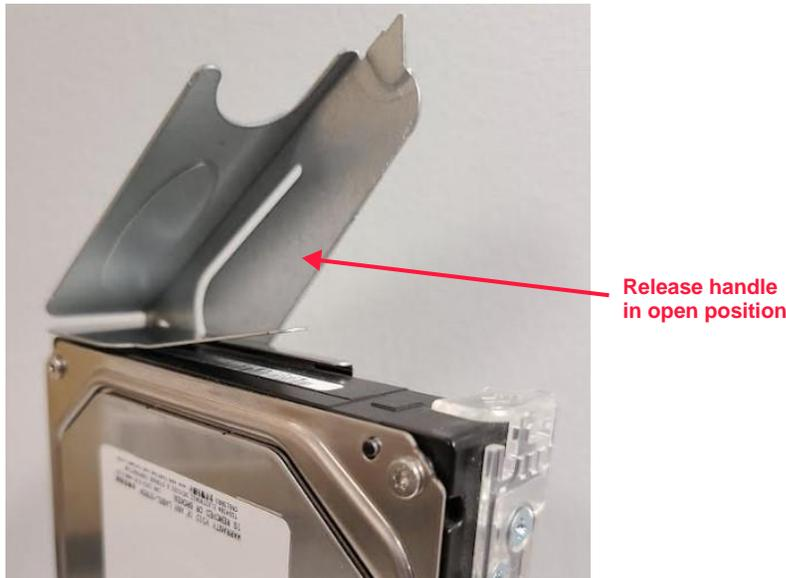

Figure 6.12 Drive carrier release handle open
1. Verify the drive carrier's release handle is in the open position. See Figure 6.12 for a close-up view of the release handle.